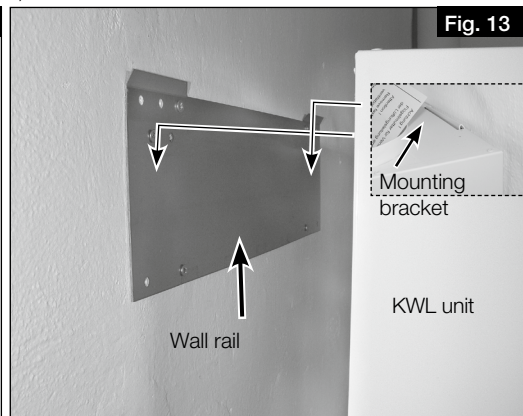

Fig. 13
5. Hang the unit mounting bracket on the wall rail (see Fig. 13).